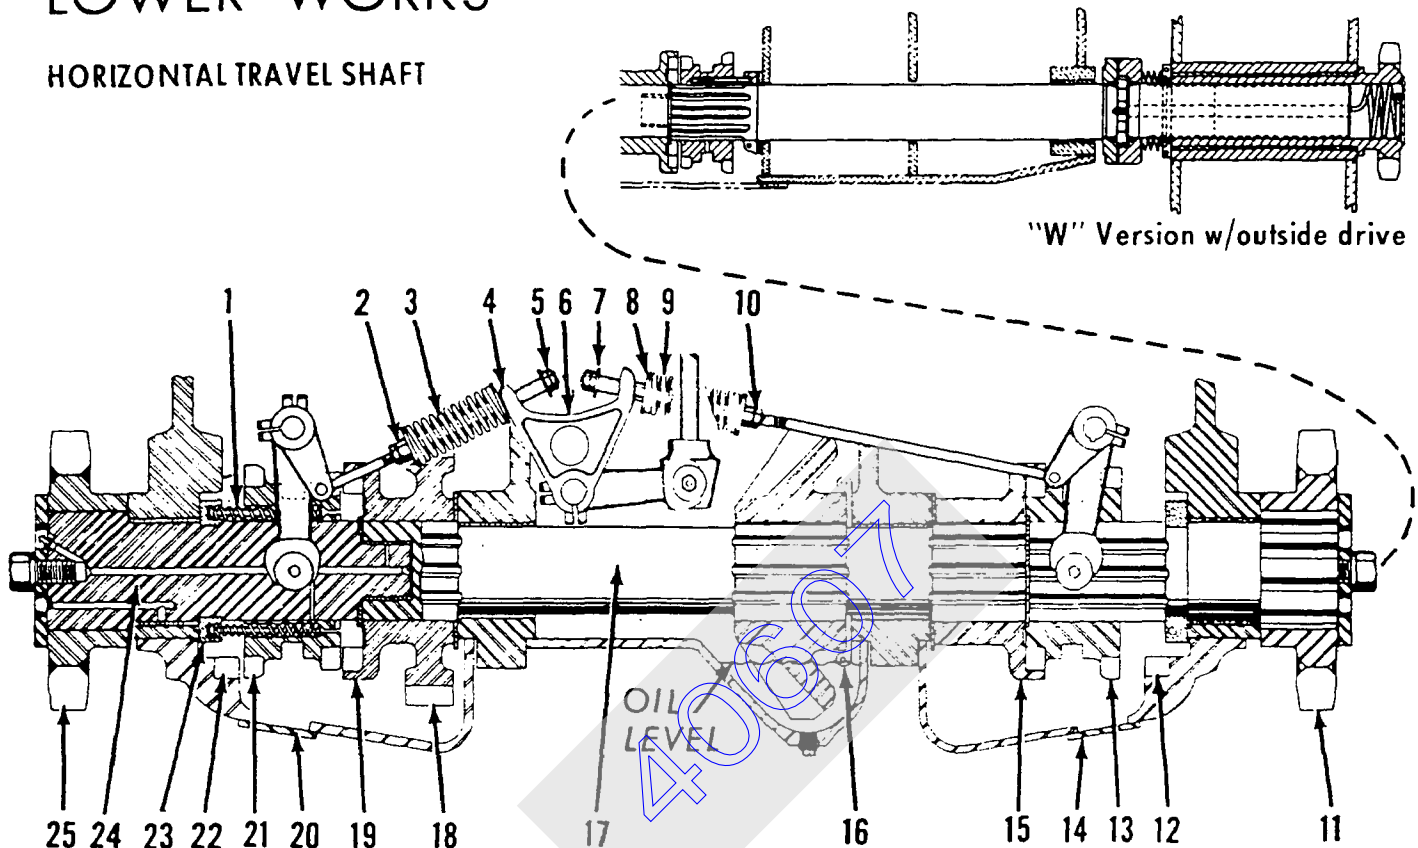

FIG. 15
Figure 15 also illustrates another available position of the clutch — neutral position. This neutral position allows the operator to make a long sweeping turn.
5) Check weekly to be sure oil level in center compartment is at the proper level. (SEE FIGURE 15) Bevel gear and pinion will give longer service if kept well lubricated. No grease or oil is required in the steering clutch compartments. All parts therein are lubricated from grease fittings in the outer ends of the sprocket travel shafts – actually, grease or oil in the pans is harmful because it can cause sluggish clutch action.